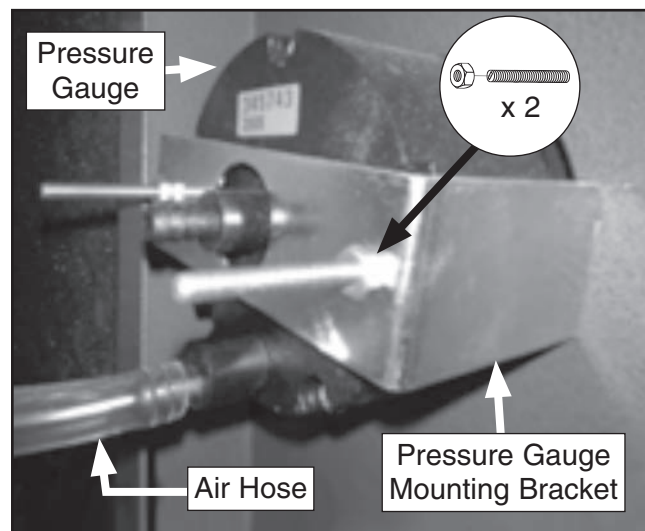

Figure 39. Pressure gauge secured to bracket with air hose connected.
45. Secure pressure gauge to bracket with pressure gauge mounting bracket, (2) M3-.5 x 42 slotted set screws, and (2) M3-.5 hex nuts (see **Figure 39**).
46. Connect air hose to output on back of pressure gauge (see **Figure 39**).